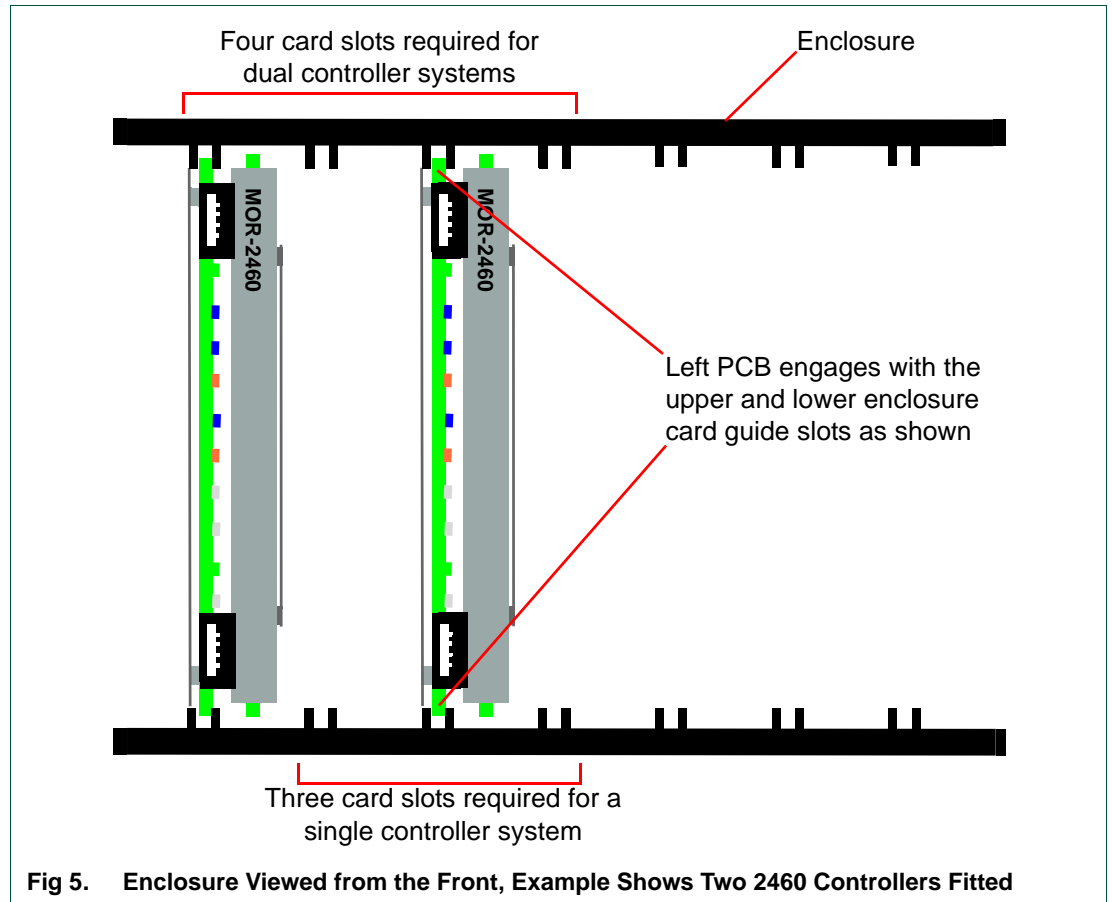

Fig 5. Enclosure Viewed from the Front, Example Shows Two 2460 Controllers Fitted
- A single controller requires two slots and three rear panel positions, see Fig 5.
- A pair of dual-redundant controllers require four slots and four rear panel positions, see Fig 5.
6. Ensure correct orientation of the 2460 controller and that the left controller PCB is aligned with the upper and lower enclosure card guide slots, see Fig 5.